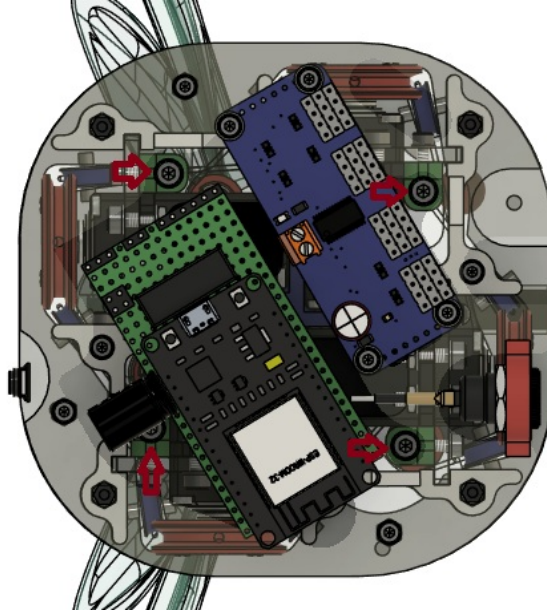

Figure 13: Bottom of Flower Pot showing the Tensioning screws
2. With a 2.5 mm Allen key, turn the M3 bolt associated with the tendon pair being adjusted (clockwise to tighten, counter-clockwise to loosen). The screws can be seen in figure 13.